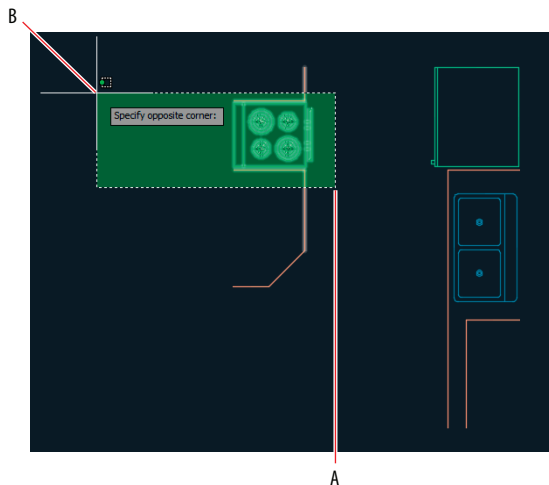

FIGURE 6.30 Stretching isolated objects
3. Click the Stretch button in the Modify panel. Make a crossing selection from point A to B as shown in Figure 6.30 and press Enter. Toggle on Ortho mode if it is not on already. Click an arbitrary first point, move the cursor downward a short distance to establish the vertical direction for the STRETCH command, type **12 (30** in metric) and press Enter.